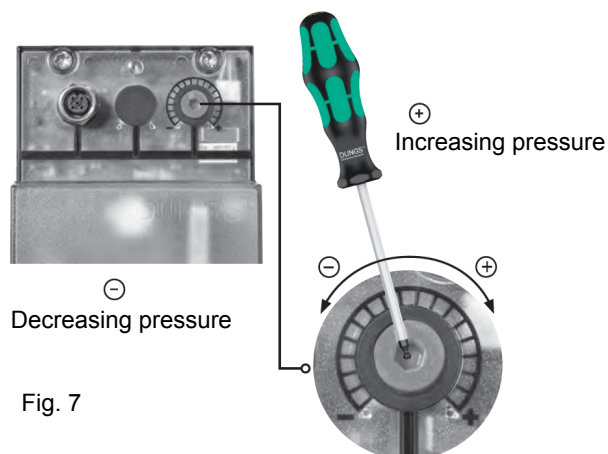

Fig. 7
4. VD can be mounted rotated by 180°, fig. 7.